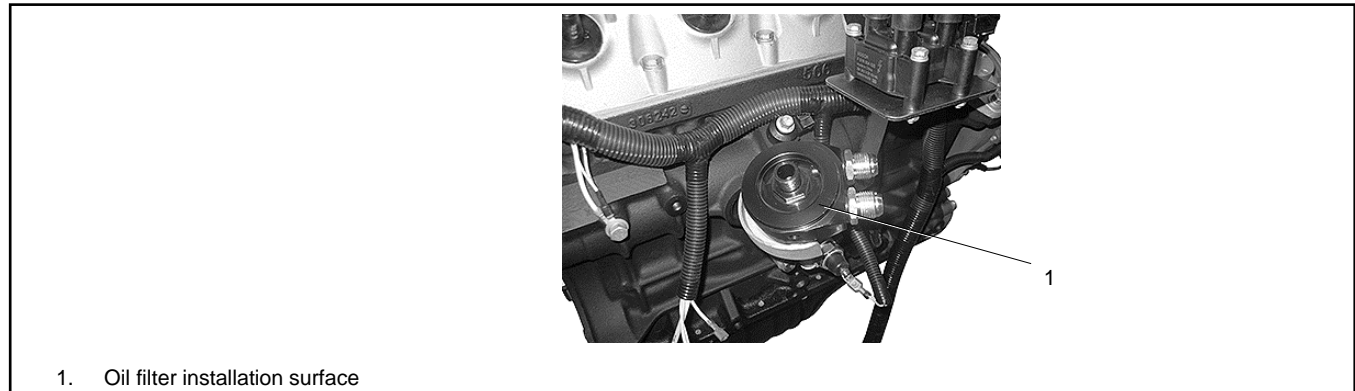

Figure 30 Oil Filter Installation Location
5. Wipe the oil filter installation surface clean with a dry cloth. Inspect the installation surface for damage. See Figure 30.
7. Lightly screw in the new oil filter by hand until you feel resistance. Using the oil filter wrench, tighten the filter an additional 3/4 turn. See Figure 30.